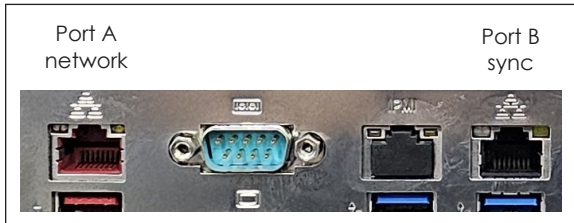

Figure 5: Network Ports
1. Connect one end of the RJ45 network cable to the network Ethernet Port A. Refer to **Figure 5**.